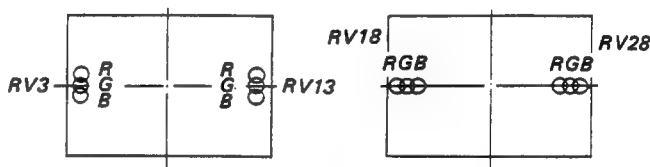

Fig. 1-13.
4. Adjust RV3, RV13 and RV18, RV28 on the DC board to coincide with the R, G and B dots as shown in Fig. 1-13.